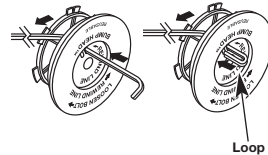

Fig. 33
- Take approximately 9 feet (3 m) of new trimming line. Insert one end of the line through one of the two holes in the inner reel (Fig. 33). Pull the line through the inner reel until only about 4 inches is left out.